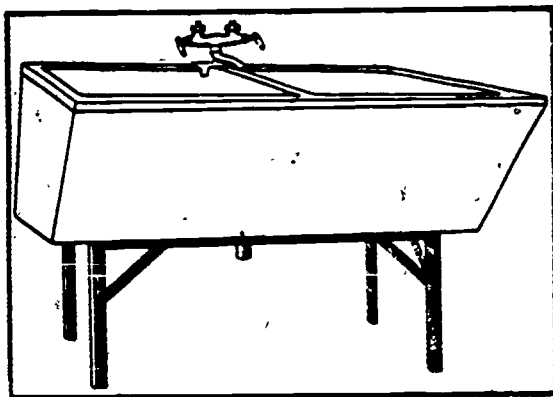

Figure 5-24. Double-compartment laundry tub.
**Construction of laundry tubs.** Laundry tubs are made in single- and double-compartment styles. They are usually constructed of concrete, like the one shown in figure 5-24, but a unit made of enameled iron is sometimes used. Laundry tubs are usually supported by metal stands.